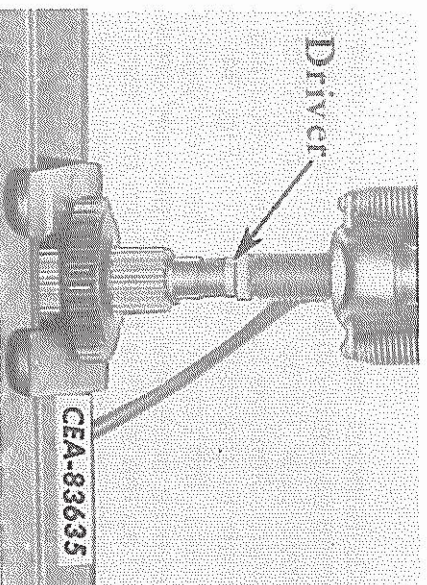

FIG. 36 — Removing the Second Speed Driven Gear
26. Support the shaft in a press under the second speed driven gear and press the shaft from the gear (Fig. 36). Use a driver to protect the shaft.